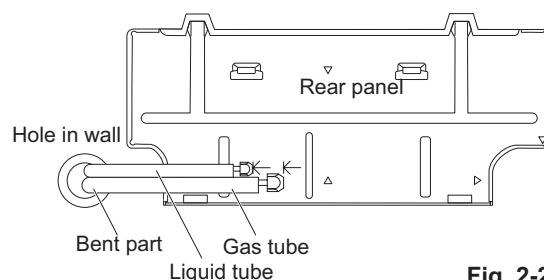

Fig. 2-222
- (1) Lead the tubing and drain hose through the wall, allowing sufficient length for connection. Then bend the tubing using a tube bender to make the attachment. (Fig. 2-222)
- (2) Switch the drain hose and drain cap.